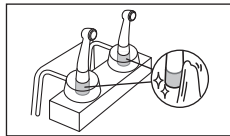

Fig. 19
- 2 Wipe off dirt on a part held by a handpiece holder using a cloth moistened with 60 - 90 % ethanol or disinfectant (CaviWipes®) (Fig. 19).